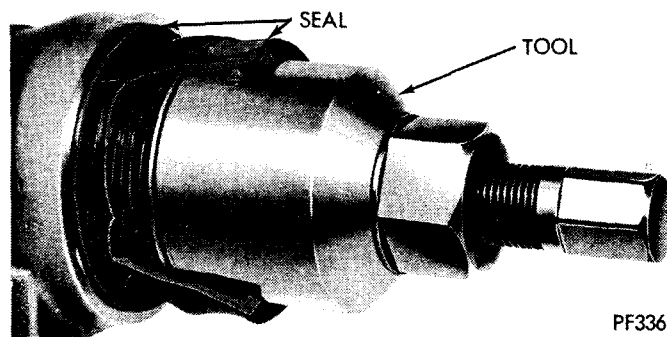

Fig. 9—Removing Extension Housing Yoke Seal
(3) Cut boot end of extension housing yoke seal, then screw the tapered thread of Tool C-748 into the seal. Turn the screw of the tool to remove the seal (Fig. 9).
(4) Remove bolts securing extension housing to crossmember. Raise transmission slightly with service jack and remove center crossmember.
(5) Remove extension housing to transmission bolts and slide extension housing off the mainshaft.